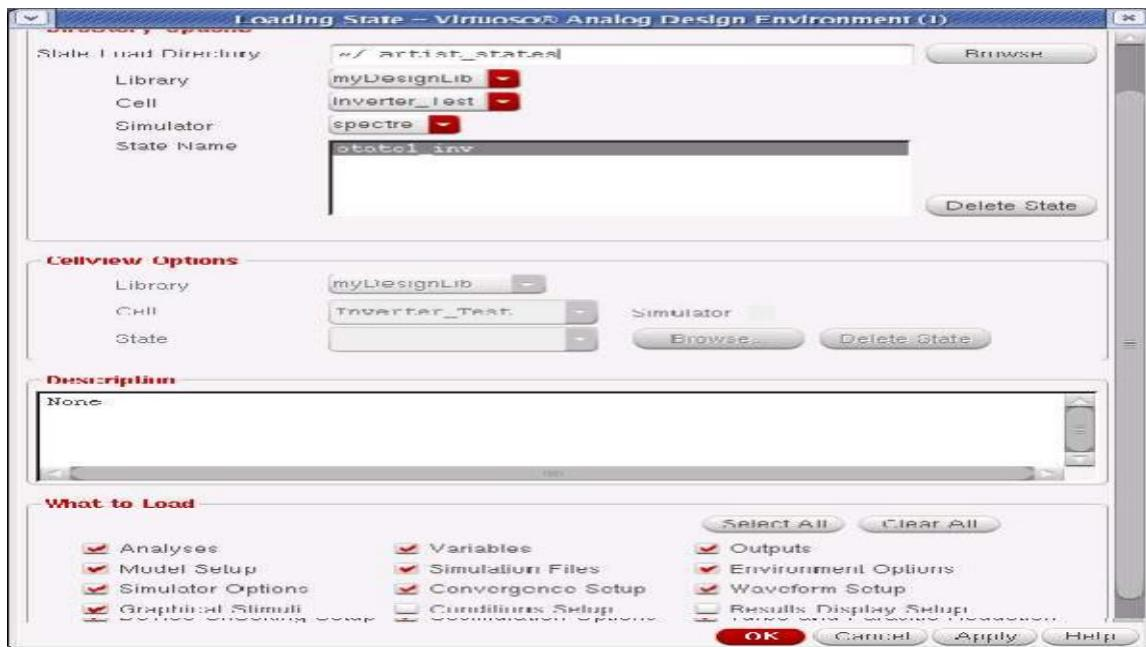

Figure 1.18: Loading State window
2. In the Loading State window, set the State name to state1_inv as shown in figure 1.18